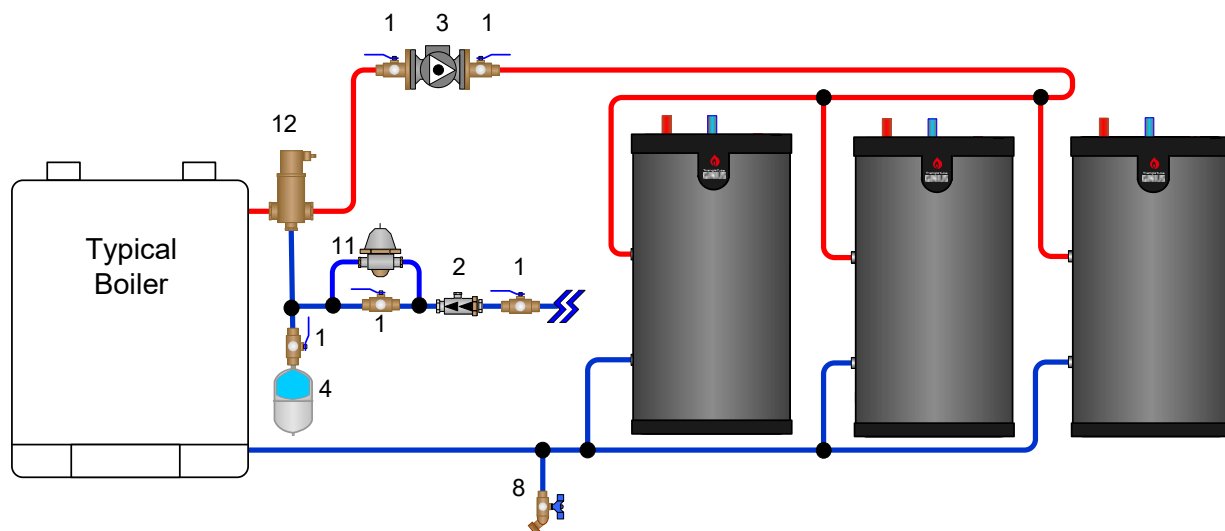
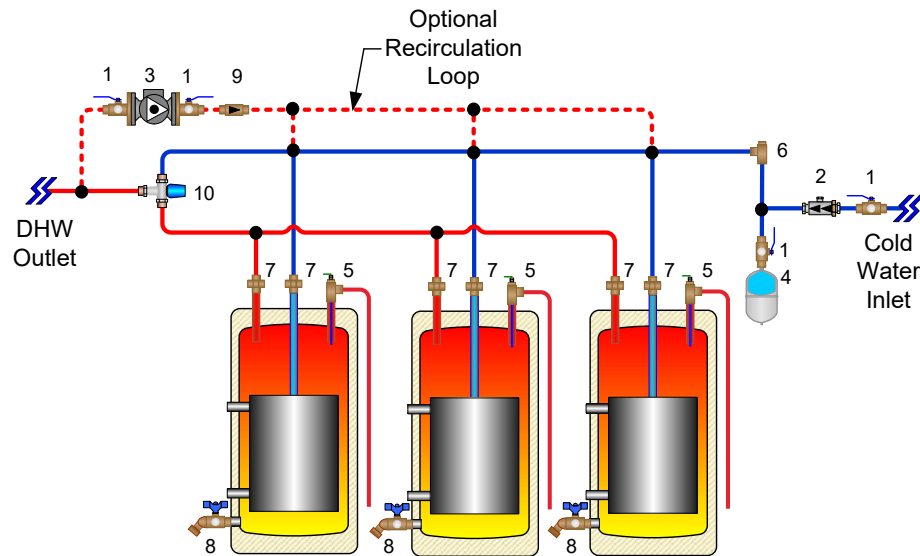

Fig. 11 - Multiple GINIUS Series Water Heater System Boiler Piping - Reverse Return Balanced Flow
Fig. 12 - Multiple GINIUS Series Water Heater System Domestic Piping - Parallel
- For multiple water heater domestic and boiler piping, see *Fig. 11 on page 10* and *Fig. 12 on page 11*.